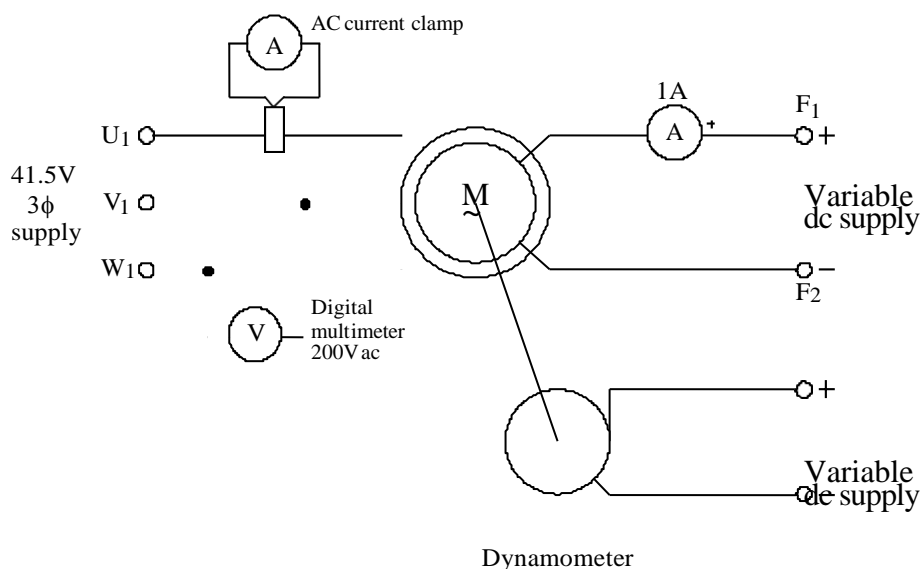

Figure 4
2. Connect the circuit as shown in figure 4.